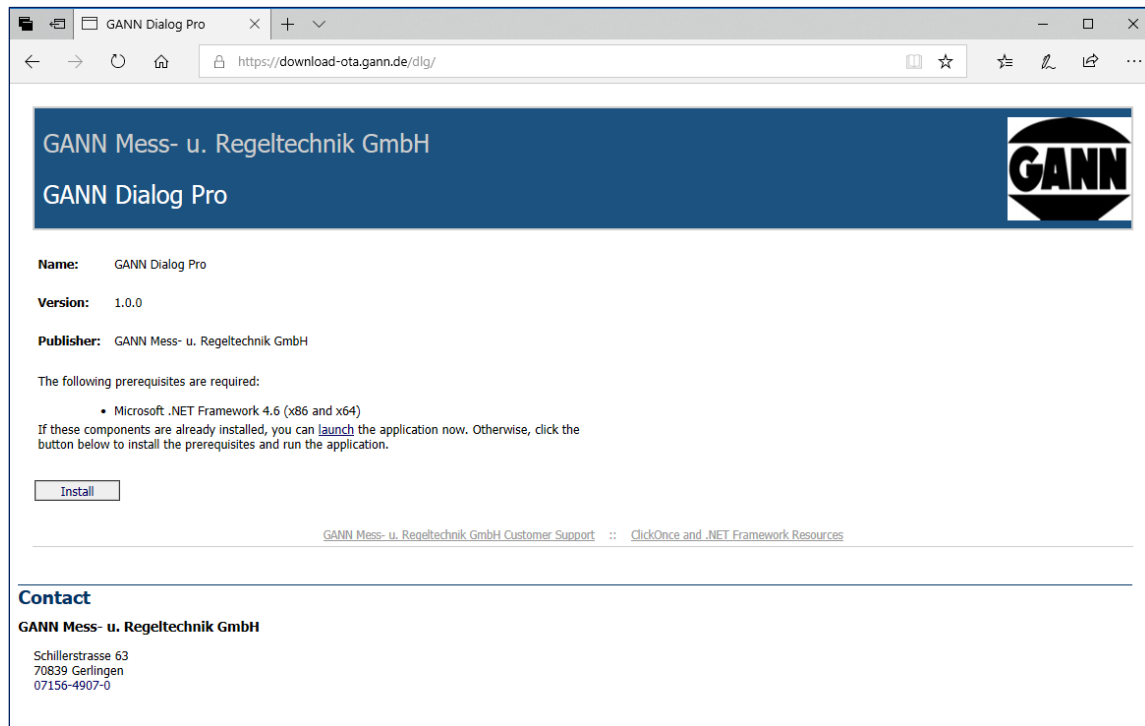

Figure 1-1: GANN Dialog Pro download website
Figure 1-1 shows a screenshot of the installation user interface (UI). To install GANN Dialog Pro, proceed as follows (please make sure your firewall does not block the installation process):